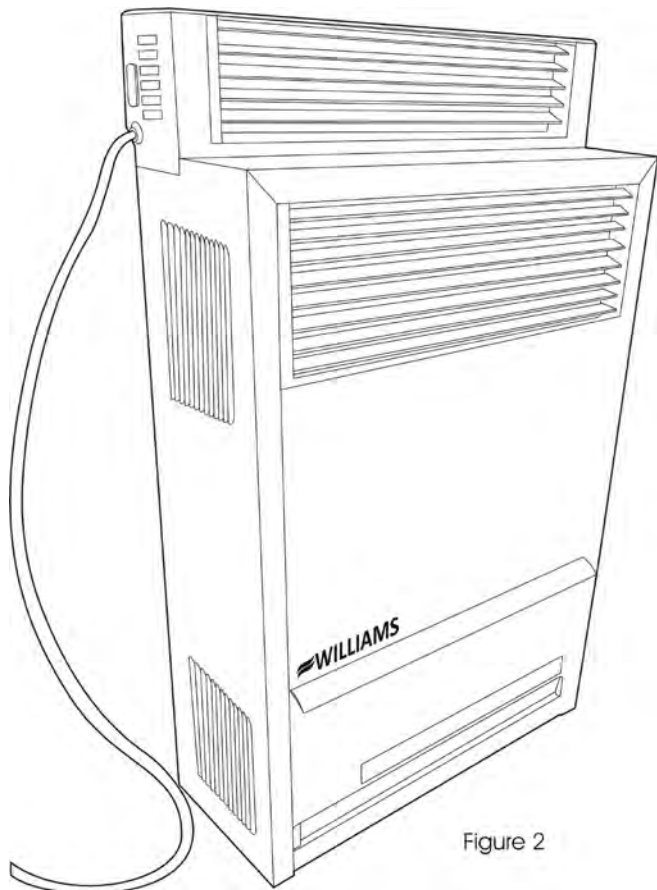

Figure 2
1. Set the blower on top of the furnace with the rear flange of the blower cabinet behind the furnace cabinet. This will place the back of the blower cabinet against the wall surface. (See Figure 2 page 20).